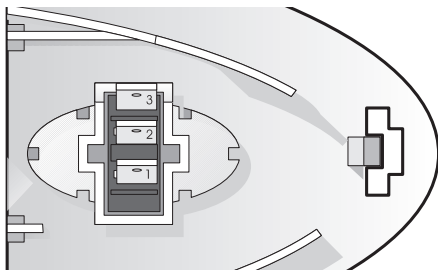

Figure 8b
3. Using a multimeter on resistance scale, take following readings: (See Figure 8b.)